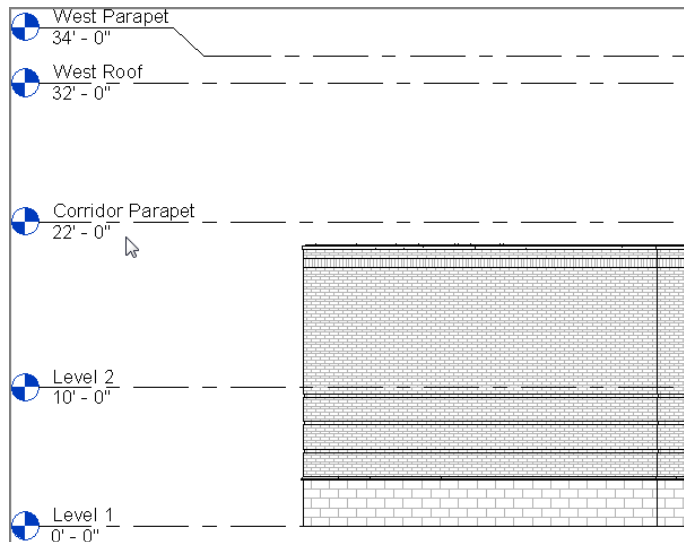

FIGURE 3.28: All the levels are in place for now.
16. Drag the left side of the line to an area approximately as shown in Figure 3.28.